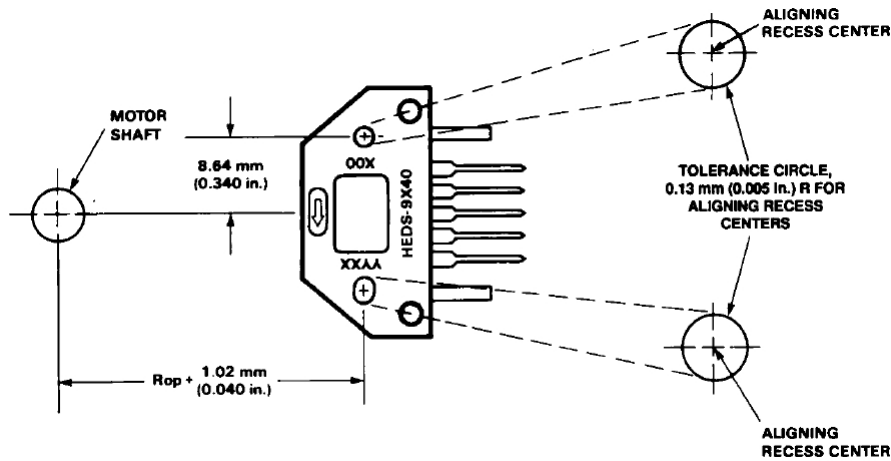
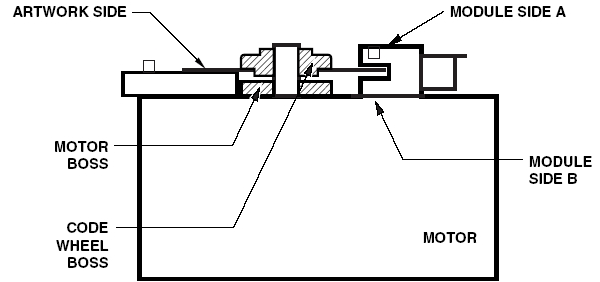
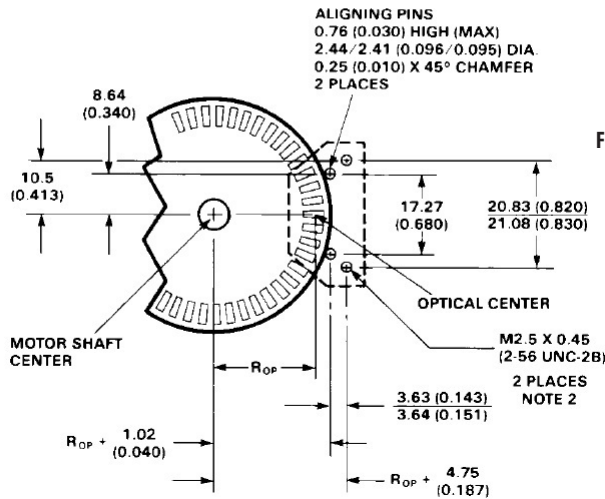

Figure 2. HEDS-9X40 Mounting Tolerance.
Figure 3. Alignment Tool is Used to Set Height of Codewheel.
Figure 5. Mounting Plane Side A.
Figure 2 shows a mounting tolerance *requirement* for proper operation of the HEDS-9040 and HEDS-9140. The Aligning Recess Centers must be located within a tolerance circle of 0.005 in. radius from the nominal locations. This tolerance must be maintained whether the module is mounted with side A as the mounting plane using aligning pins (see Figure 5), or mounted with Side B as the mounting plane using an alignment tool (see Figures 3 and 4).
2. Set codewheel height by placing alignment tool on motor base (pins facing up) flush up against the codewheel as shown in Figure 3. Tighten codewheel setscrew and remove alignment tool.
The HEDS-9040 and HEDS-9140 can also be mounted using aligning pins on the motor base. (Hewlett-Packard does not provide aligning pins.) For this configuration, Side A must be used as the mounting plane. The aligning recess centers must be located within the 0.005 in. R Tolerance Circle as explained above. Figure 5 shows the necessary dimensions.
centers must be located within the 0.005 in. Radius Tolerance Circle as explained in "Mounting Considerations." Figure 5 shows the necessary dimensions.